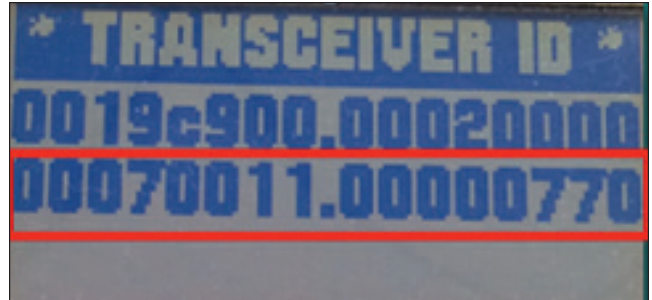

Figure 9. Transceiver ID on the TripSaver II recloser LCD screen.
- (b) **Method 2:** Rotate the mode selector lever to initiate the display screens after the TripSaver II recloser is powered up. The first screen to appear will contain the transceiver ID. See Figure 9.